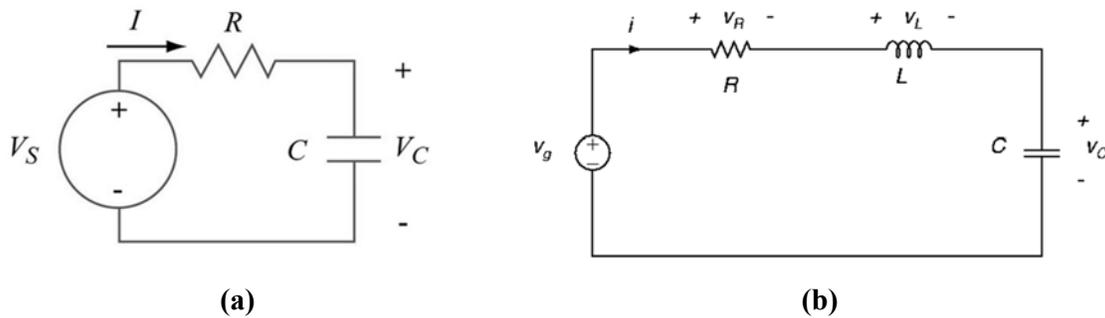

Fig. 3(a) RC circuit, **(b)** RLC circuit
- Draw RC and RLC circuits as shown in Fig. 3.